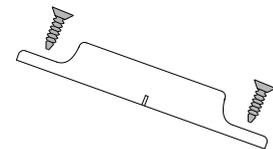

Figure 4: Commercial Installation
2. Use the provided #4 screws to mount the magnet. See Figure 4.